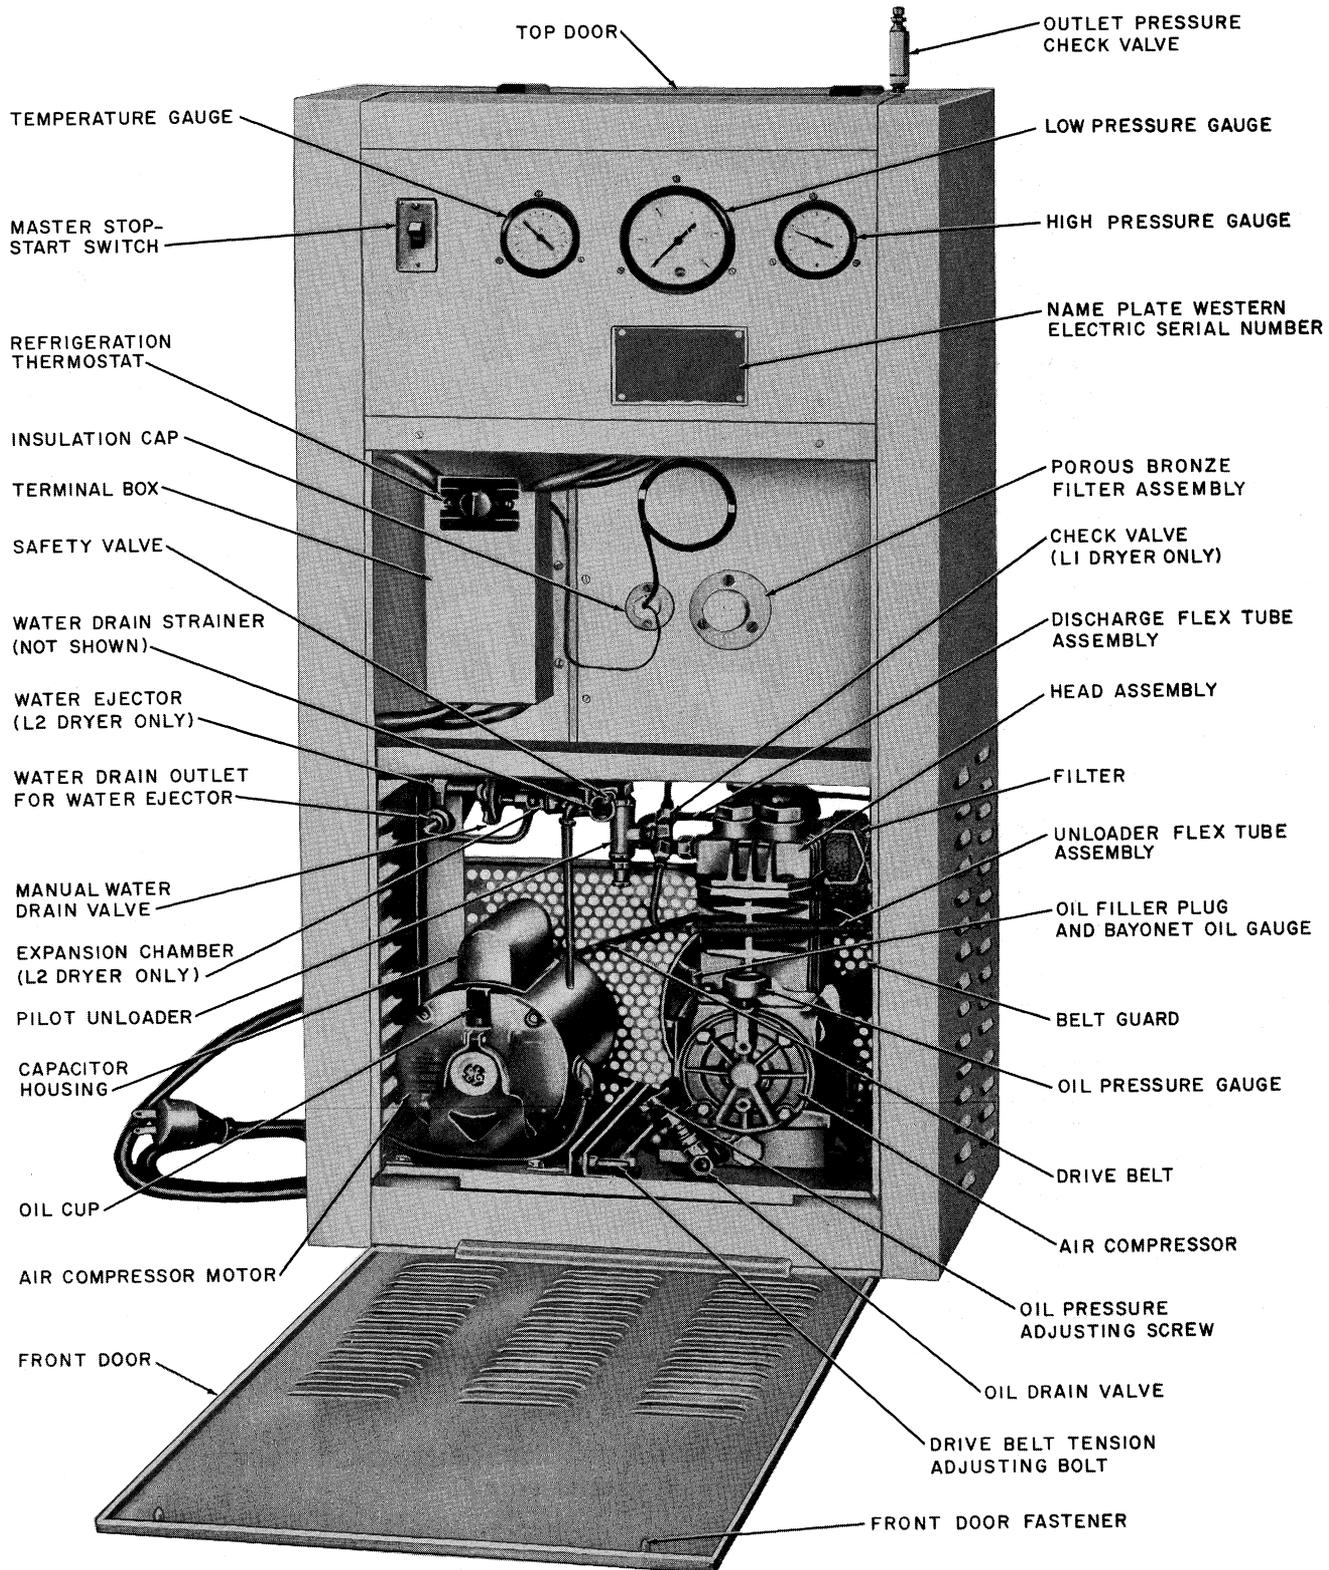

Fig. 2—KS-16432 L2 Air Dryers (KS-16432 L1 Air Dryers With Serial Numbers 3000 and Up Are Similar)
(b) **L1 Dryers with serial numbers 3000 and up and all L2 Dryers only:** A heat exchanger and check valve in the low pressure outlet and a 150 psi (pounds per square inch) air outlet with pipe plug and high pressure shutoff valve (Fig. 2, 3, and 4).
(c) **L2 Dryers only:** A water drain strainer, automatic water ejector, expansion chamber, and orifice at the water drain outlet (Fig. 2 and 4).
- 2.05** The L2 Dryer is supplied with a 1/2-inch water drain elbow and nipple to be installed in the water drain outlet located at the left rear of the unit (Fig. 2). Water can be piped to a floor drain or may also be discharged through a short length of copper tubing into a bucket. Water is drained automatically from the L2 Dryer by the water ejector. L1 Dryers must be drained manually at weekly intervals.